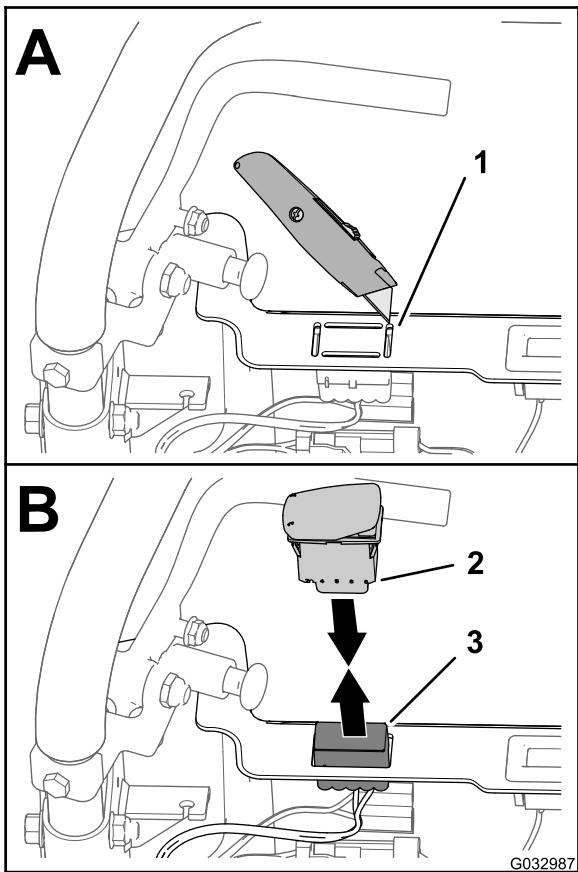

Figure 15
1. Remove the knock-out plug at the top left area for the console (A Figure 15).
2. Pull up the 10-socket connector of the wire harness from the light kit and hour meter wire harness kit through the opening in the control panel (Figure 15).
3. Connect the 10-pin connector of the 2-position rocker switch into the 10-socket connector of the light kit and hour meter kit (Figure 15).